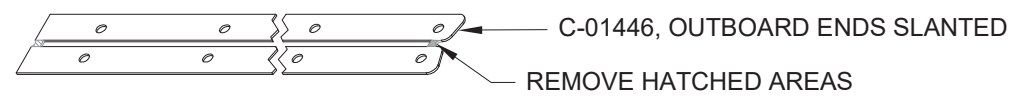

FIGURE 2: SEPARATE SEAL RETAINERS
- Step 10: Separate the C-01446 Seal Retainers as shown in Figure 2. Note that the outboard ends are slanted.